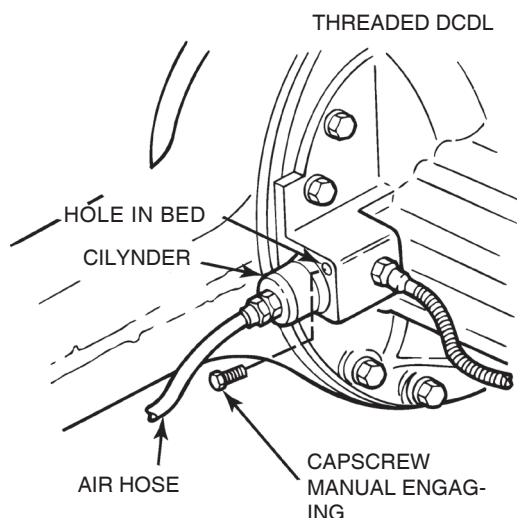

Figure 11.2
10. Desconecte a mangueira de ar do cilindro de acionamento do mecanismo de bloqueio. FIGURE 11.2
11. Remove the manual engaging capscrew from the storage hole. The storage hole of threaded shift assemblies is located in the shift tower of the differential, next to the cylinder. Figure 11.2.